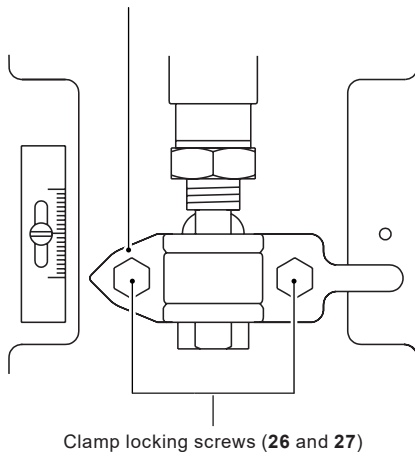

Fig. 5
- Apply the control signal pressure required to bring the spindle to mid-travel position (Figure 5). Place the actuator yoke over the valve spindle and locate it onto the bonnet shoulder. Hand tighten the mounting nut.
- Apply the setting pressure to the bottom of the actuator, and then adjust the connector (10) so that it touches the valve adaptor (11), then tighten the lock-nut (25).
- Carefully release the control air signal. Fit the front and rear clamps (13 and 14) as shown in Figure 5.
- Check travel is correct. If reduced travel is observed, redo the full setting, apply minimum setting pressure from the setting table and reset the connector (10).
- Fit the front and rear clamps (**13** and **14**) as shown in Figure 5.